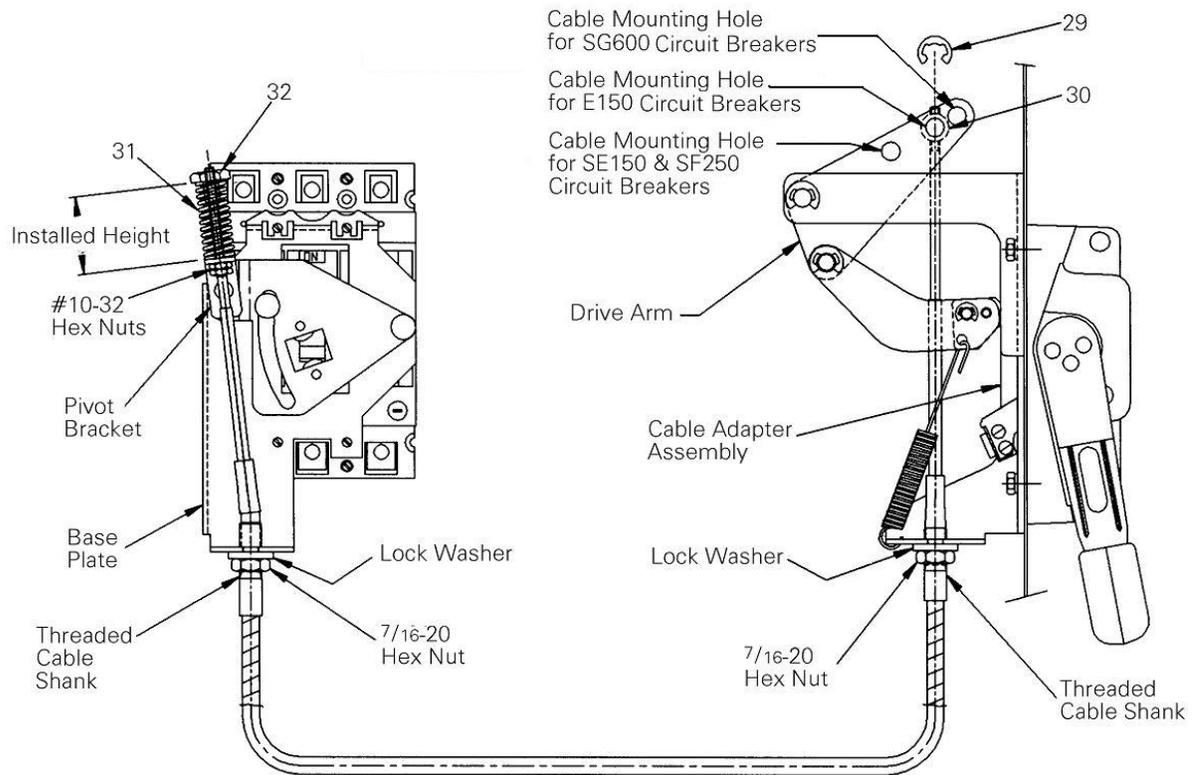

Figure 7. Cable Installation
2. Place the operating handle in the OFF position. Position the cable behind the handle drive arm linkage. Insert the groove of the cable (middle of the cable shank threads) into the slot at the bottom of the cable operator assembly. Tighten the  $\frac{7}{16}$ " hex nut against the cable adapter assembly until it is snug. Insert the cable guide pin [30] into the proper mounting hole in the drive arm, as shown in Figure 7. Snap an E-ring [29] into the groove of the guide pin [30].
3. Slide a  $\frac{7}{16}$ -20 hex nut over the cable end with the #10-32  $\times 3$ " thread. Install the nut onto the threaded cable shank beyond the groove at the middle of the shank. Install a  $\frac{7}{16}$ " lock washer onto the hex nut. Thread two #10-32 hex nuts approximately  $2\frac{3}{4}$ " onto the threaded end of the cable. Rotate the pivot bracket into position, as shown in Figure 7, and insert the end of the cable through the pivot bracket. Insert the groove of the cable into the slot on the base plate. Tighten the  $\frac{7}{16}$ -20 hex nut against the base plate flange until snug. With the breaker in the OFF position, move the #10-32 hex nut up on the cable shaft against the pivot bracket. Note the position of the pivot bracket in Figure 7.